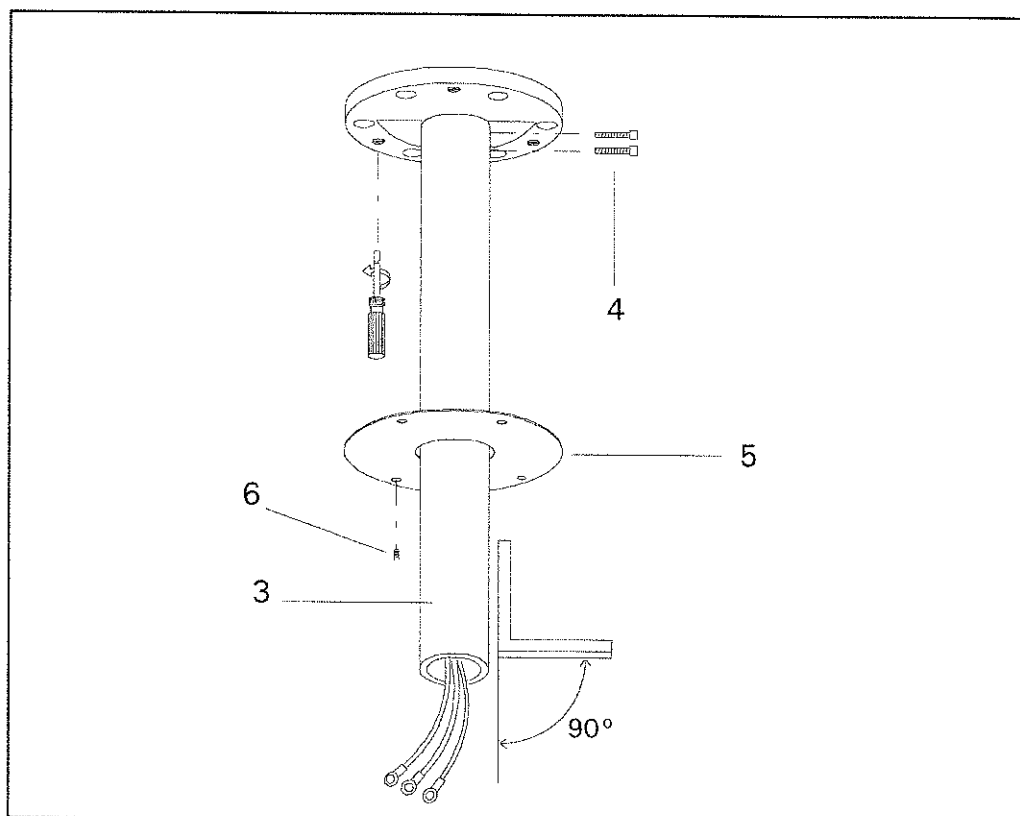

Figure 6-6
5. Screw stand (3) to ceiling plate using the two screws (4) provided in installation kit (See Fig. 6-6 Page 30).
7. Install plate cover (5) and fix it with the four relevant screws (6).